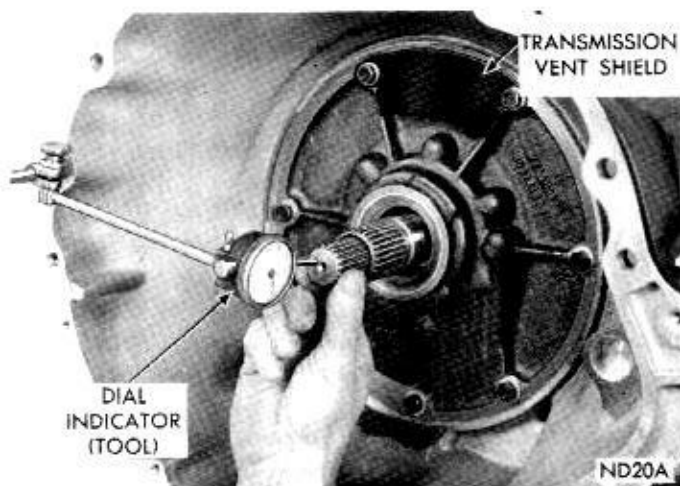

Fig. 30—Measuring Drive Train End Play
(1) Attach a dial indicator to transmission bell housing with its plunger seated against end of input shaft (Fig. 30). Move input shaft in and out to obtain end play reading. End play specifications are: .030 to .089 inch for A-904 transmissions, and .037 to .084 inch for A-727 transmissions.
(2) Record indicator reading for reference when reassembling the transmission.